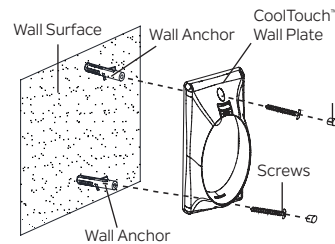

Fig. 29a
**Step 2.** Use the drywall anchors and screws provided to finish the installation. (Fig. 29a)